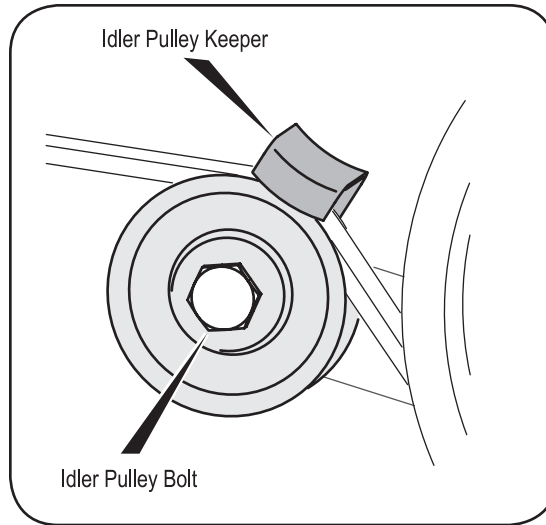

Figure 5-4: Idler pulley keeper belt removal.
3. Remove idler pulley bolt and move belt from under idler pulley keeper. See Figure 5-4.
**NOTE:** Upon reassembly, make certain the idler pulley keeper is as shown in Figure 5-4. Take note of the notch on the bottom of the keeper and alignment when reassembling with the replacement belt.